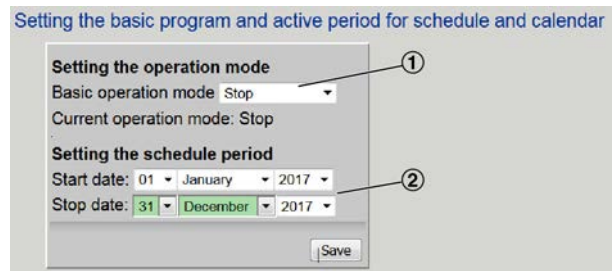

Fig. 45: Setting a 'basic program'.
- ▶ Select a basic operating mode (Fig. 45/1).
- ▶ Set the start date and stop date (Fig. 45/2) for the calendar function.